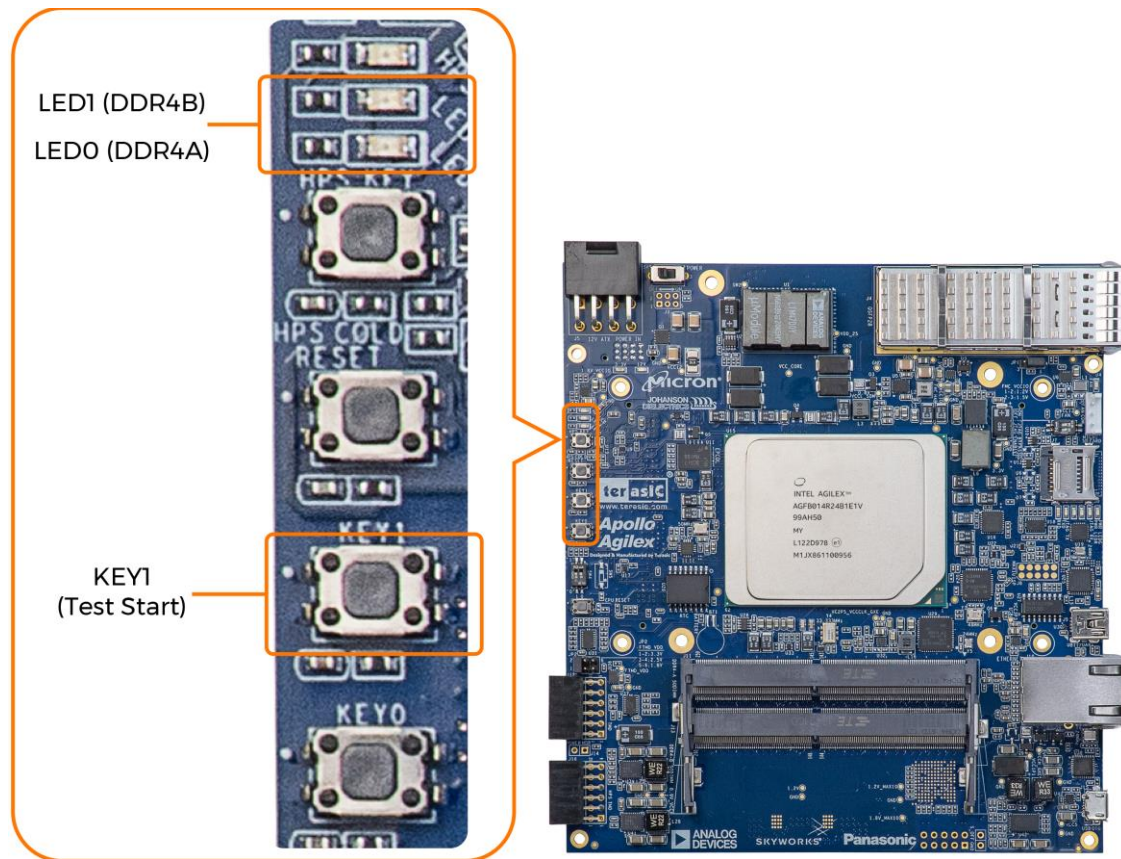

Figure 2-12 Location of the KEY and LED on the Apollo Agilex board
5. Press **KEY1** (see Figure 2-12) to start DDR4 write & loopback verify process. It will take about 1 second to perform the test. While testing, the LED will blink. When LED stop blinking it means the test process is done.